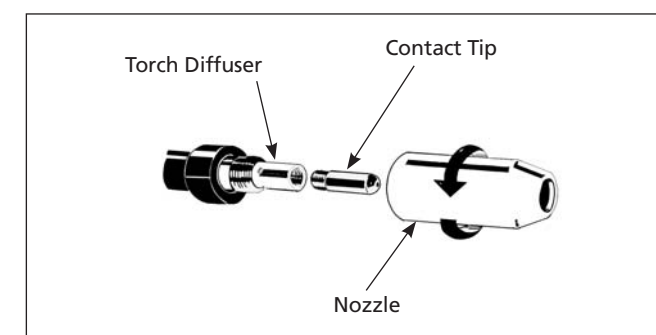

Figure 3 - Torch needle
- Wire matches contact tip in end of torch (See Figure 3).
- Unscrew nozzle and contact tip from end of welding torch (See Figure 3). Plug welder into a proper power supply receptacle.
- Carefully slip contact tip over wire, screw tip into torch end and reinstall nozzle (See Figure 3). Cut wire off approximately 1/4 inch from nozzle end.
- El alambre coincide con la punta de contacto en el extremo del soplete (Ver Fig. 3).